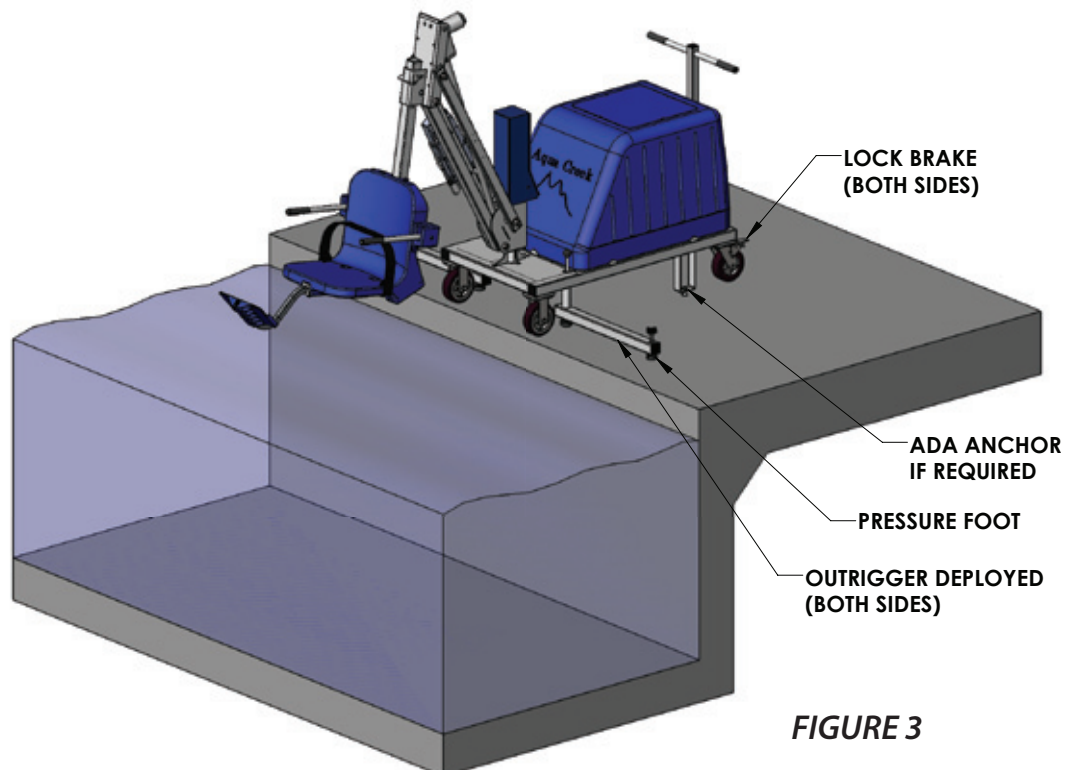

FIGURE 3
7. Deploy both outriggers and twist the pressure foot on either side until they come into contact with the ground. **DO NOT OPERATE LIFT UNLESS OUTRIGGERS ARE DEPLOYED!** See FIGURE 3 below.